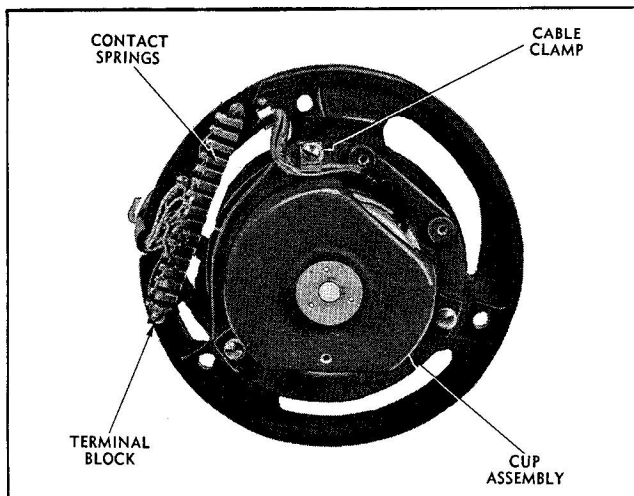

Figure 2-27 Bottom View of Frame and Synchro Assembly
- (3) Unscrew three binding head screws and lockwashers and remove the cup assembly from the frame. A small clamp retaining the synchro cable also comes off with one of the screws. (See figure 2-27.)